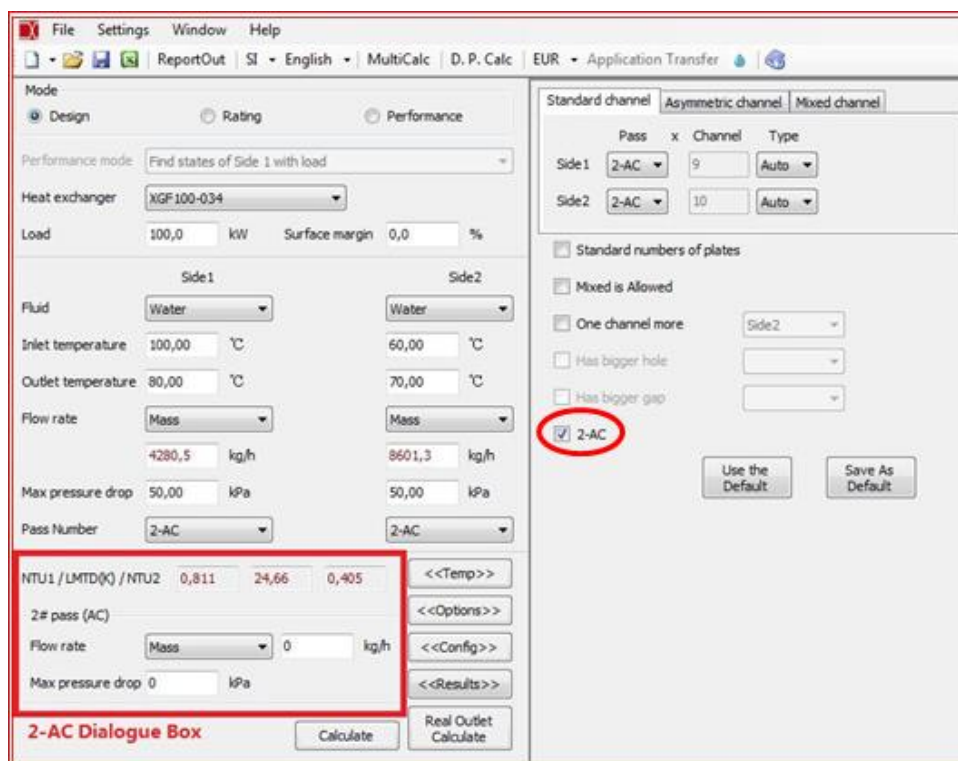

Figure 12 –After Cooling Dialogue Box
- ✧ **2-AC:** Users can checked this item to do after cooling calculation. And the after cooling dialogue box will appeared in duty screen. (as shown in figure 12)